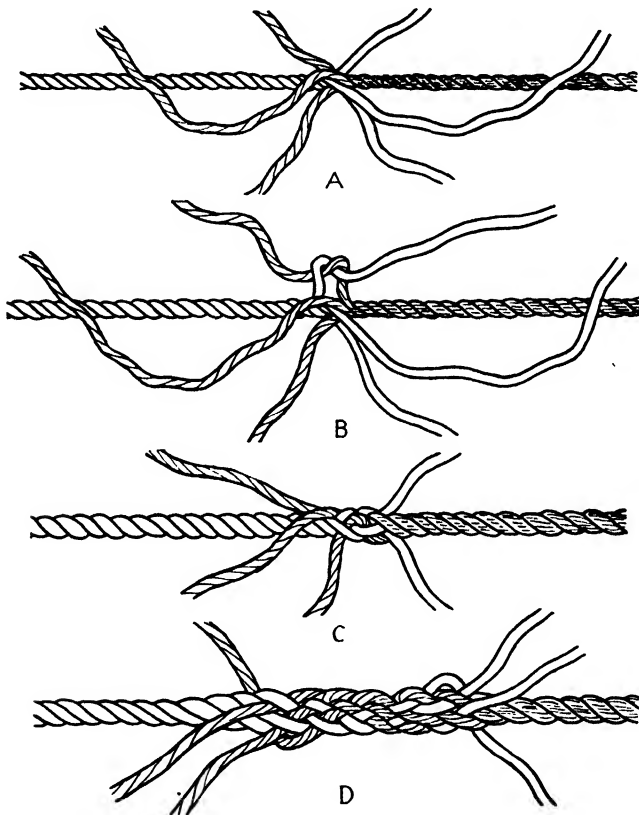

Fig. 8-31. The short splice.
3. Tie each strand from one rope with the corresponding strand from the other rope, using a simple overhand knot. When all three strands are thus tied, draw them all up even and tight (see Fig. 8-31, *B* and *C*).